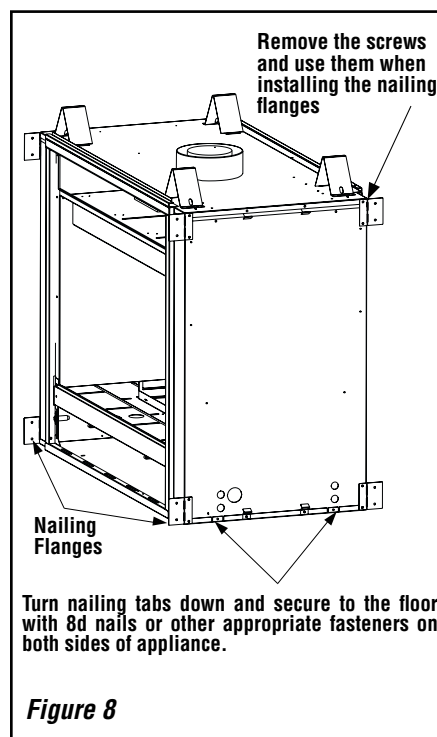

Figure 8
****NOTE:** See **Page 8, Step 1** and **Figure 8** for clearance requirements to the nailing flange located at each side of the unit and any screw heads adjacent to it.
The fireplace should be secured to the side framing members using the unit's nailing flanges - one top and bottom on each side of the fireplace front. See **Figure 8** using the existing screws. Position the fireplace within the framing. When required, the tabs may be bent 90 degrees by hand or with the assistance of a hammer. Use wood screws to secure the nailing flanges to the framing. See **Table 6** on **Page 7** for clearances of framing members to cabinet parts. The nailing flange itself can directly contact framing.
Secure the fireplace to the floor as shown in **Figure 8**.